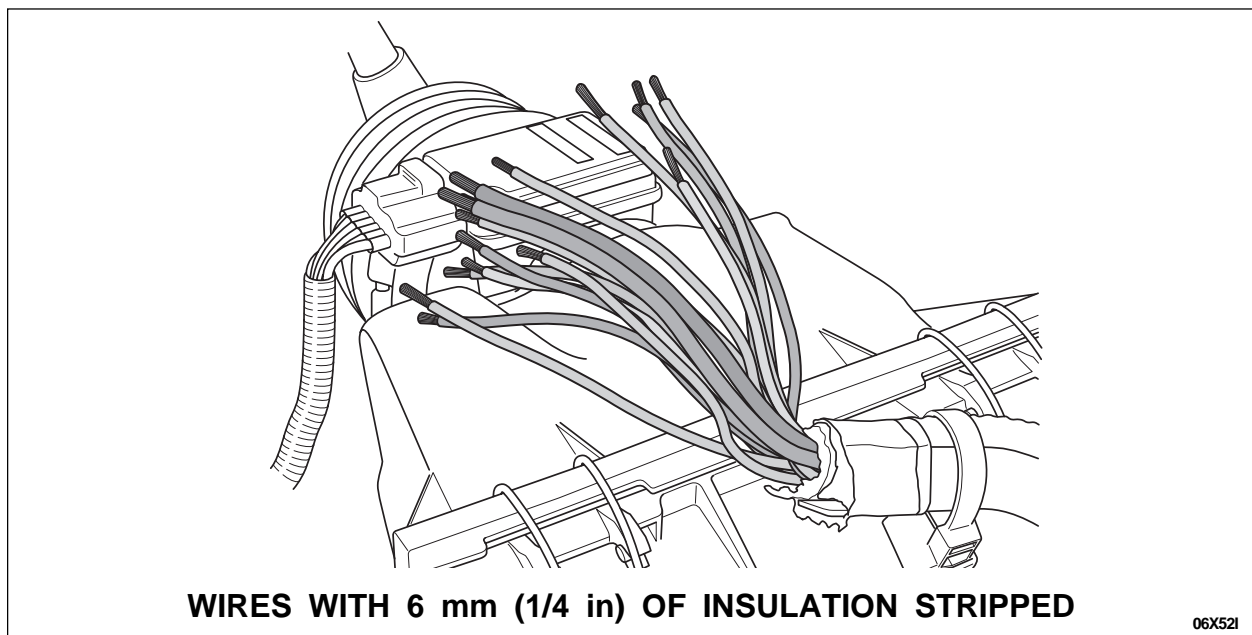

FIGURE 18
3. Strip approximately 6 mm (1/4 in) of insulation from each of the cut wires in the harness. See Figure 18.